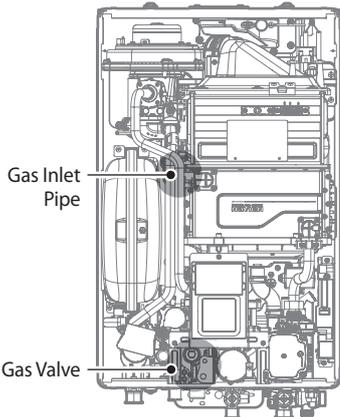
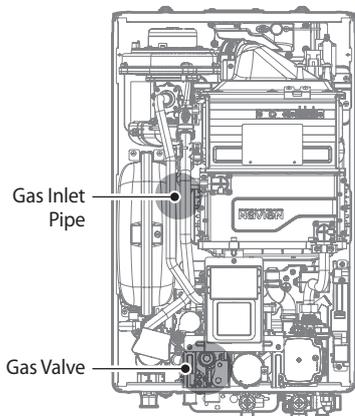

Figure 2-1. NCB700-2S+/42K Internal Components
Figure 2-2. NCB700-3S/54K Internal Components
8. With the internal components exposed, locate the gas inlet pipe and the gas valve in the middle of the unit, as shown in Figure 2-1 and Figure 2-2.